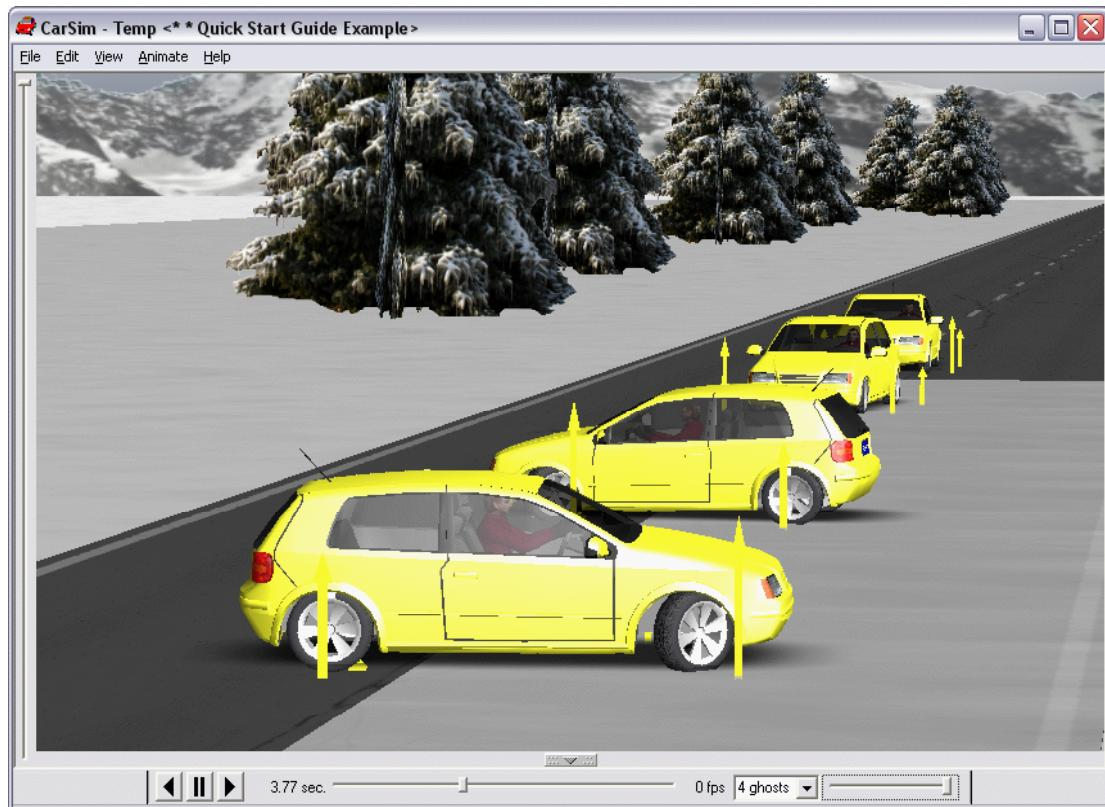

Figure 83. Baseline vehicle running a brake test on split-mu surface.
9. Press the drop-down control next to the **Procedure** blue link ①. Notice that new datasets are available that were imported in step 6 above. In the category **Accel. and Brake Testing** ②, select the dataset **Split Mu from 65 km/h** ③.
10. Click the **Run Math Model** button ④.
11. Check the **Set run color** button ⑦ and change the run color to yellow (it will show better contrast in the animation).
12. Click the **Animate** button ⑤ to see results similar to those shown in Figure 83. You will probably want to zoom out—the camera position for the double lane change is a little close for this test.